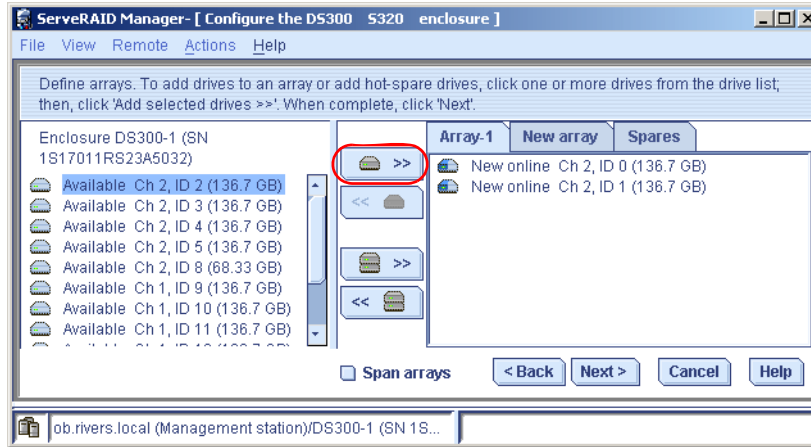

Figure 4-60 Array-1 with two assigned drives
5. Click the **Add selected drives to array** button. This is the button with the single drive symbol. The selected drives will be assigned to the new array on the right site. The name of **New array** will change to **Array-1** and a new tab with name **New array** is created. Figure 4-60 on page 117.